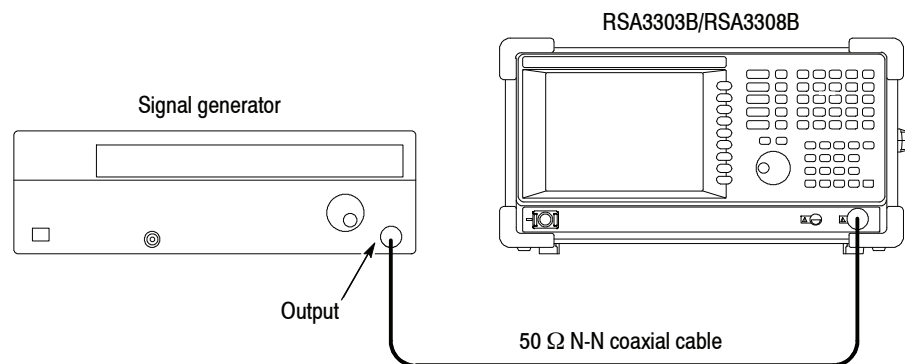

Figure 3-16: Initial test hookup
- d. *Hook up the signal generator:* Connect the generator output through a 50 Ω N-N coaxial cable to the analyzer **Input**. See Figure 3-16.